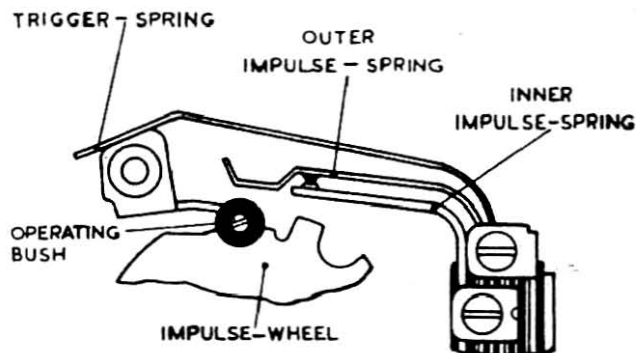

FIG. 12
- .3 The outer impulse spring should exert a contact pressure of 18-32 gms on the stiff inner impulse spring when the dial is at normal. The correct pressure shall be obtained by adjustment of the outer impulse spring, which shall be straight and free from kinks, and should be measured at a point as close as possible to the contact (see Fig 12). Adjustment should be made from the base of the spring using Tool Switchboard 74.